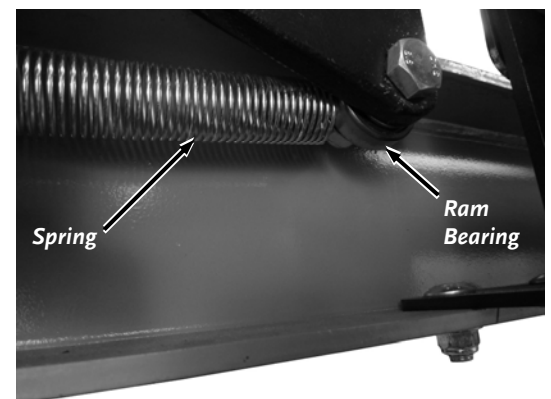

Figure 41
4. Disconnect the Return Springs from the Ram Bearing Hardware (**Figure 41**) and pull the Ram out to the Wedge.